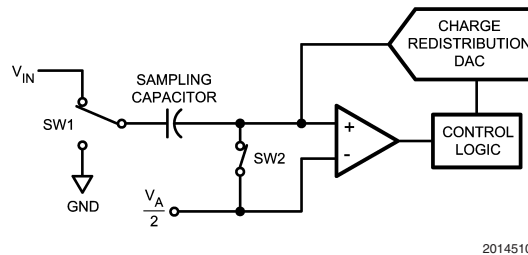
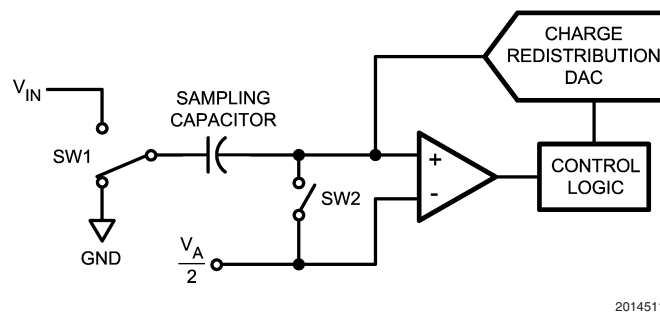

FIGURE 3. ADC121S021 in Track Mode
FIGURE 4. ADC121S021 in Hold Mode
The ADC121S021 is successive-approximation analog-to-digital converter designed around a charge-redistribution digital-to-analog converter. Simplified schematics of the ADC121S021 in both track and hold modes are shown in *Figure 3* and *Figure 4*, respectively. In *Figure 3*, the device is in track mode: switch SW1 connects the sampling capacitor to the input, and SW2 balances the comparator inputs. The device is in this state until  $\overline{CS}$  is brought low, at which point the device moves to hold mode.
*Figure 4* shows the device in hold mode: switch SW1 connects the sampling capacitor to ground, maintaining the sampled voltage, and switch SW2 unbalances the comparator. The control logic then instructs the charge-redistribution DAC to add or subtract fixed amounts of charge from the sampling capacitor until the comparator is balanced. When the comparator is balanced, the digital word supplied to the DAC is the digital representation of the analog input voltage. The device moves from hold mode to track mode on the 13th rising edge of SCLK following assertion of  $\overline{CS}$ .